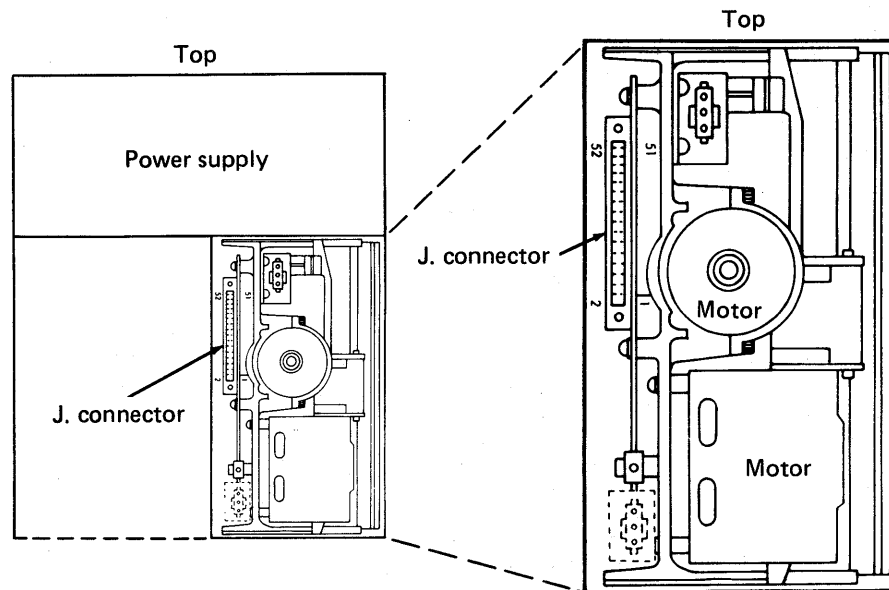

Figure 62. Connector location (rear view)
- _____ b. Locate connector J1 as shown in figure 62. Use the VOM to check voltages on pins as follows: